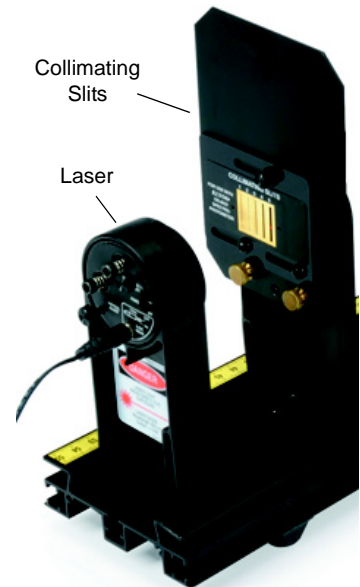

Figure 5: Laser and Collimating Slits on bench
3. Place the Collimating Slits on the optics bench and adjust the slit position on the Collimating Slits so that the laser beam passes through slit #5 and also still shines on slit #5 on the Aperture Bracket disk (see Figure 5).